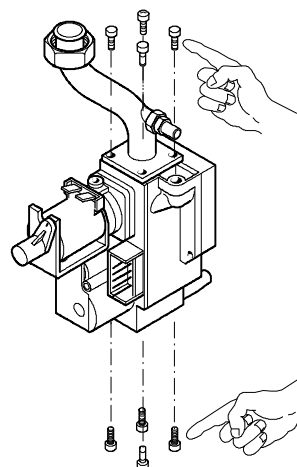

fig. 57
- 4 Unscrew the eight screws indicated in fig. 57 and remove the valve.